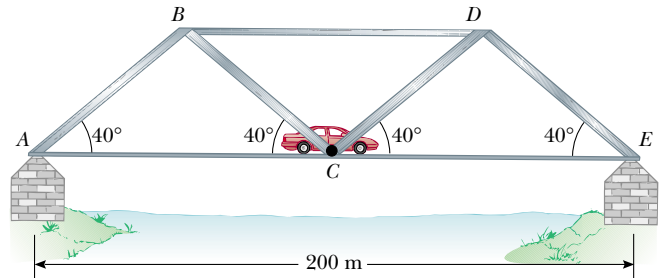

Figure P12.71
71. A 200-m -long bridge truss extends across a river (Fig. P12.71). Calculate the force of tension or compression in each structural component when a 1360-kg car is at the center of the bridge. Assume that the structure is free to slide horizontally to permit thermal expansion and contraction, that the structural components are connected by pin joints, and that the masses of the structural components are small compared with the mass of the car.